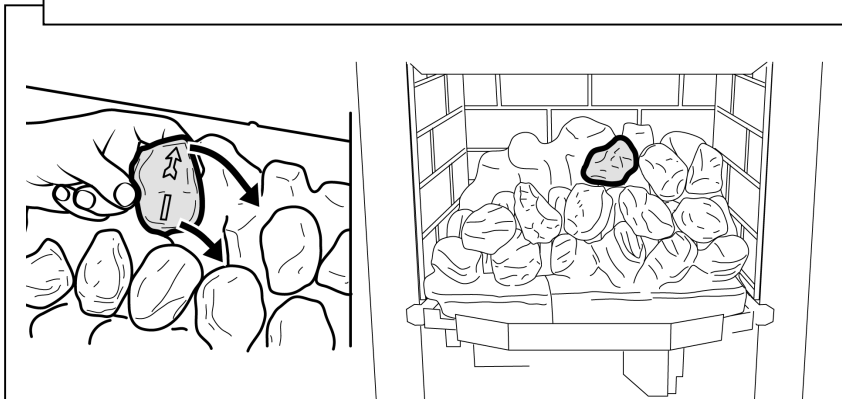

Figure 14. Third row "Coal I"
19. Hold coal 'I' upright with the arrow pointing to the top. Locate coal 'I' as shown in figure 14.